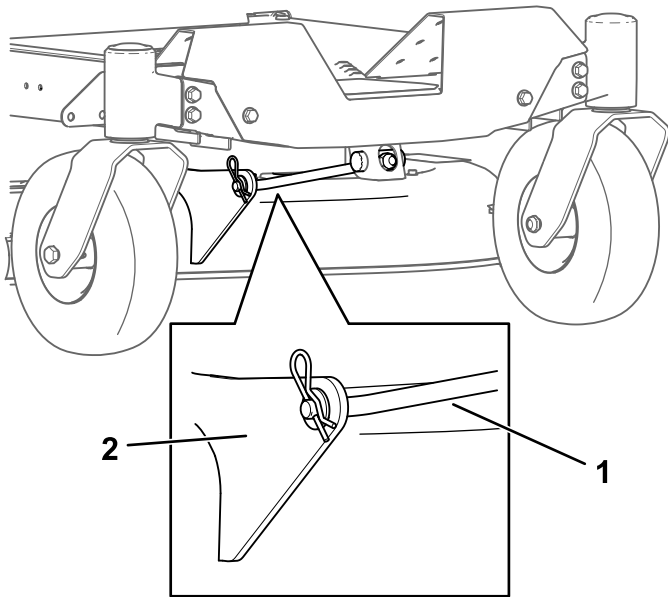

Figure 66
- Remove the hairpin cotter from the front support rod, and remove the rod from the deck bracket (Figure 66).
- Attach the front support rod to the mower deck with the clevis pin and hairpin cotter (Figure 66).